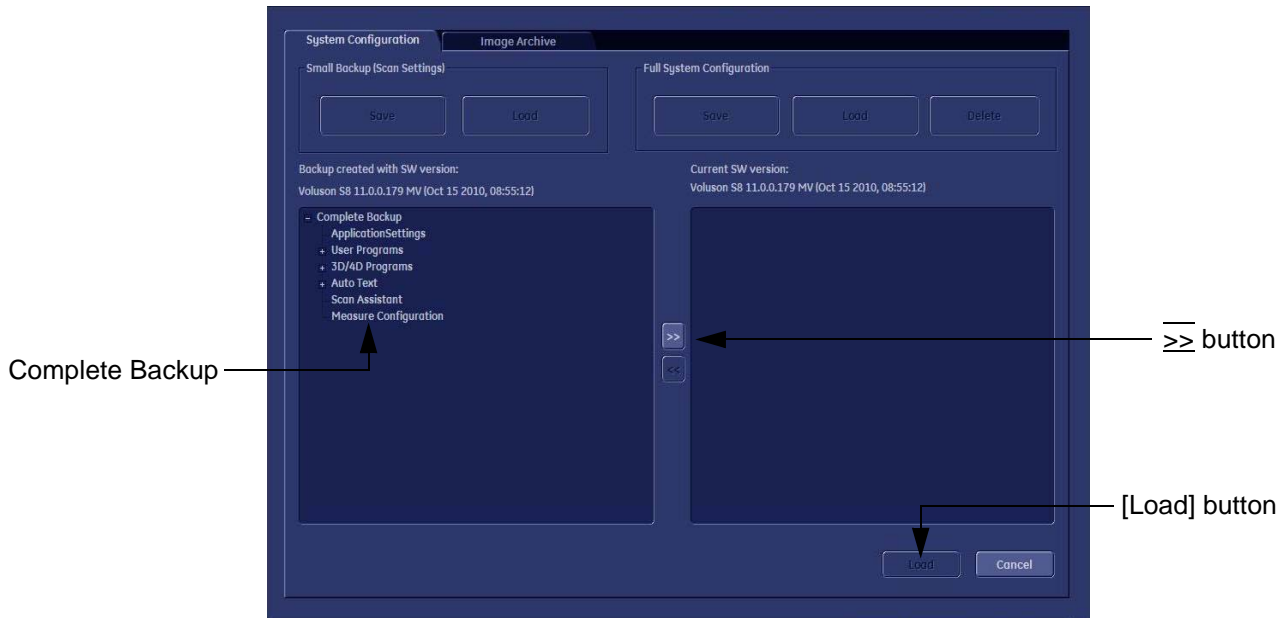

Figure 4-22 Load Backup Data
- 2.) Select the “**Complete Backup**” (marked blue; see: Figure 4-22 below) and click the  button to copy the Complete Backup into the Load Data field.